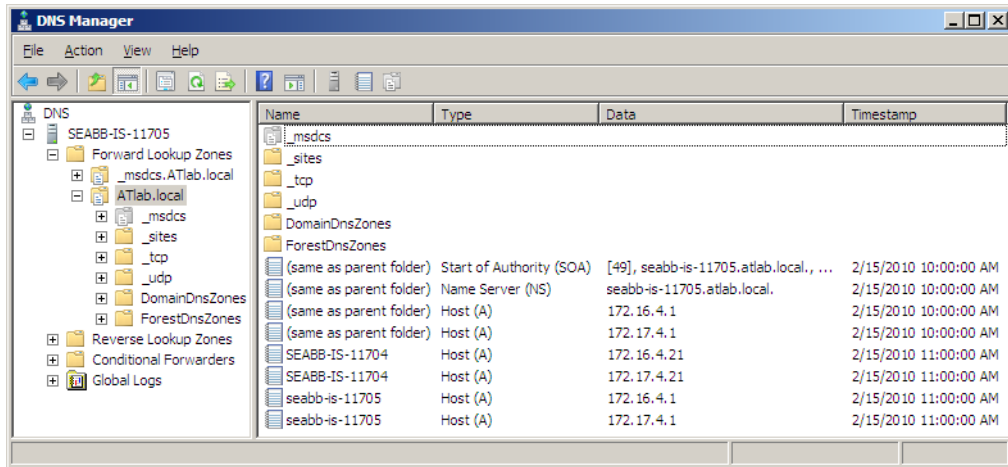
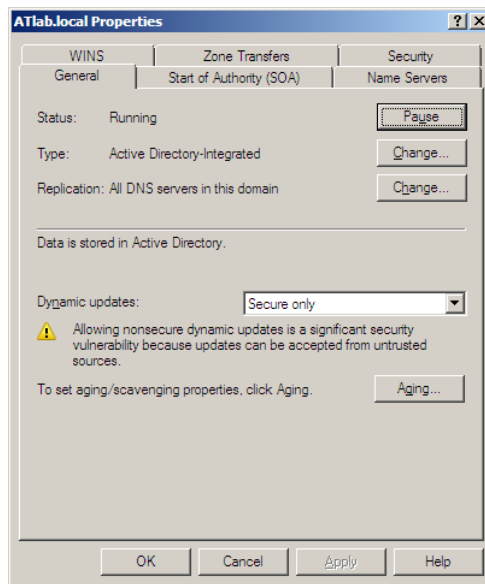

Figure 50. DNS entries for 800xA nodes. NB: Reverse lookup zones are not used
Figure 51. Properties for a DNS Forward Lookup Zone
- The DNS server is running and there is a DNS Forward Lookup Zone for the network area(s) that will be used for Client Server communication. See Figure 50 and Figure 51. This typically means the Client Server Network but not the Control Networks or other extra networks, e.g. for backup handling or other management. The DNS Forward Lookup Zone will be populated with records for the clients and servers when they join the domain.
- The DNS Forward Lookup Zone is **Active Directory integrated** and allows dynamic update of records from nodes that enter the network, see Figure 51. Make sure that the parameter **Dynamic updates** is set to **Secure Only**.